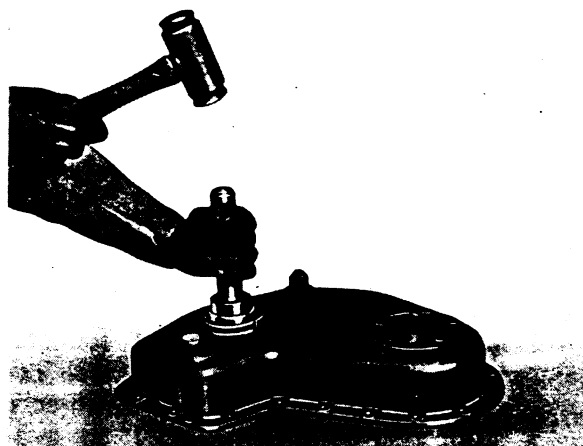

FIG. 127.
1. The crankshaft front oil seal situated in the timing cover can now be removed with the aid of Service Tool FT.44B and Universal Handle No.550. See Fig. 127.